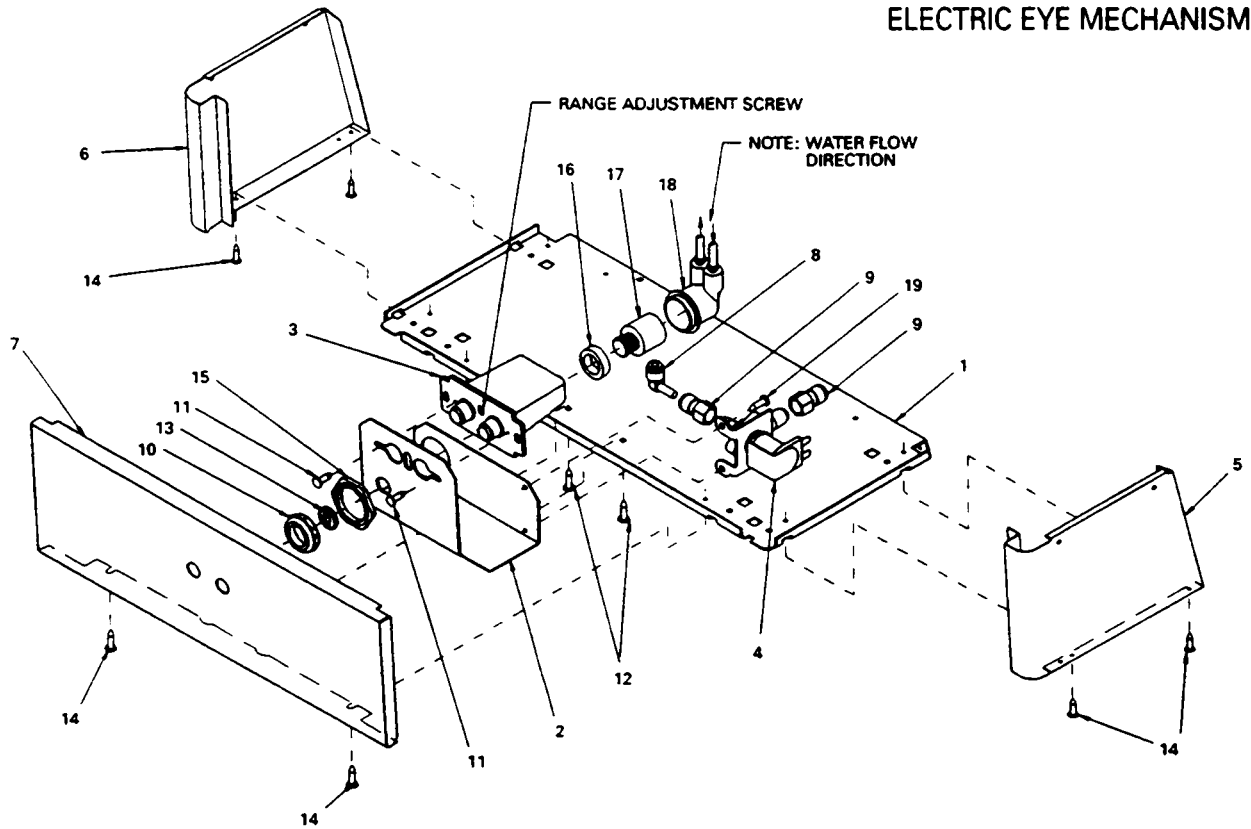

FIG. 5
- 11). Stream height is factory set at 45 - 50 PSI. If supply pressure varies greatly from this, readjust stream height to approximately 1-1/2" above the bubbler guard by turning adjustment screw, accessible by removing front push panel, Item No. 7 (see Fig. 5).
- 14). Replace the front panel and secure by re-tightening four (4) screws.
- b. Using a small tip screwdriver, rotate range adjustment screw clockwise to increase range and counter-clockwise to decrease range. (see Fig. 5). **CAUTION:** Complete range of sensor (24-48 inches) is only one turn of the adjusting screw.